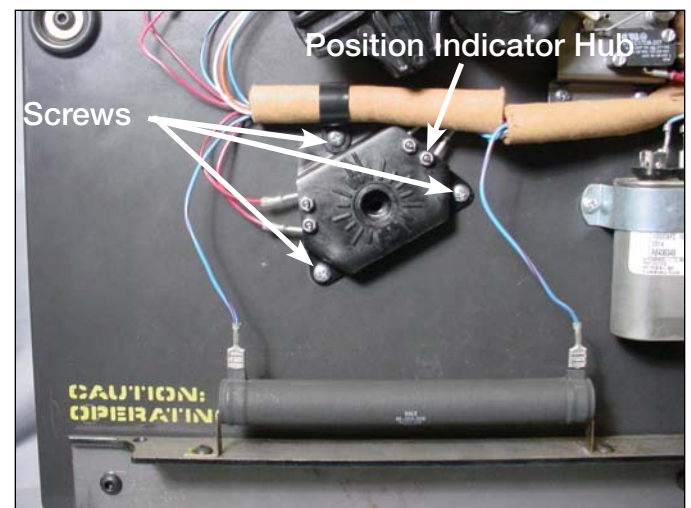

Figure 11.
- Using a Phillips head screwdriver, loosen and remove the three mounting screws fastening the position indicator micro switch hub to the front of the tap changer assembly. See Figure 11.